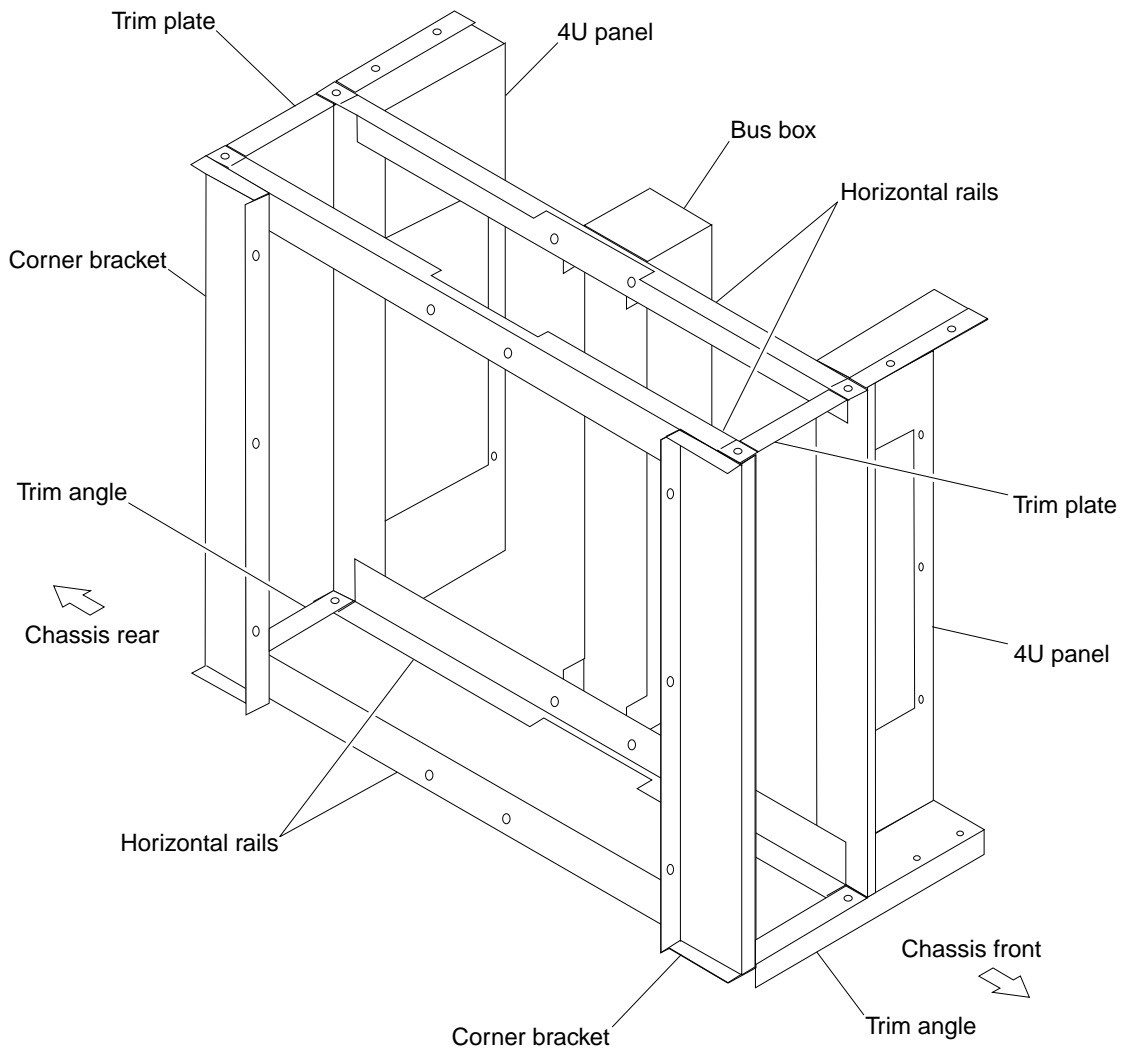
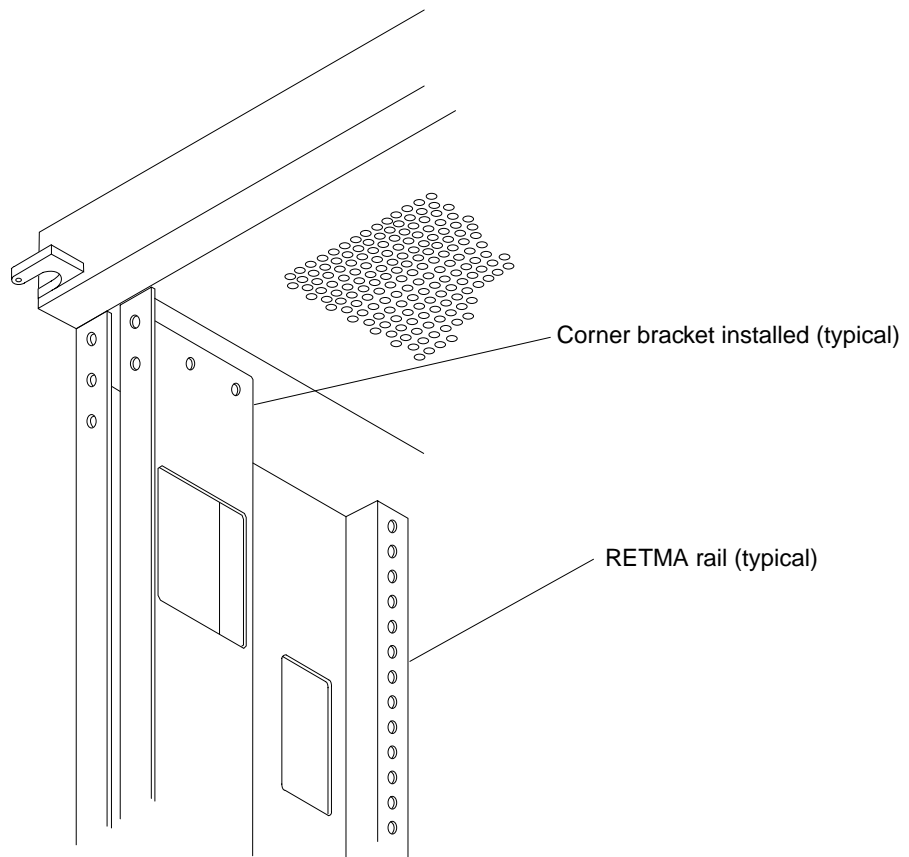

FIGURE 6 4U Panel, Brackets, Rails, and Trim Parts
FIGURE 7 Corner Bracket Installed on RETMA Rail
Perform the following procedures to install the rear 4U panel, brackets, rails, and trim parts (FIGURE 6).
1. **Install the rear 4U panel on the RETMA rail near the existing power shelf with three 10-32x1/2 screws in holes 8, 23, and 38 (counting from the bottom up). Leave the screws loose (FIGURE 6).**
2. **Install the corner bracket onto the RETMA rail opposite 4U panel with three 10-32x1/2 screws in holes 8, 23, and 38 (FIGURE 6 and FIGURE 7).**
4. Install two horizontal rails to the corner brackets with four M4x10 flathead screws for each horizontal rail. Leave the screws loose (FIGURE 6).
1. **Install two 10-32 screws in the PEMs on the inside upper horizontal rail with approximately three turns. See FIGURE 6 for the location of the bus box.**